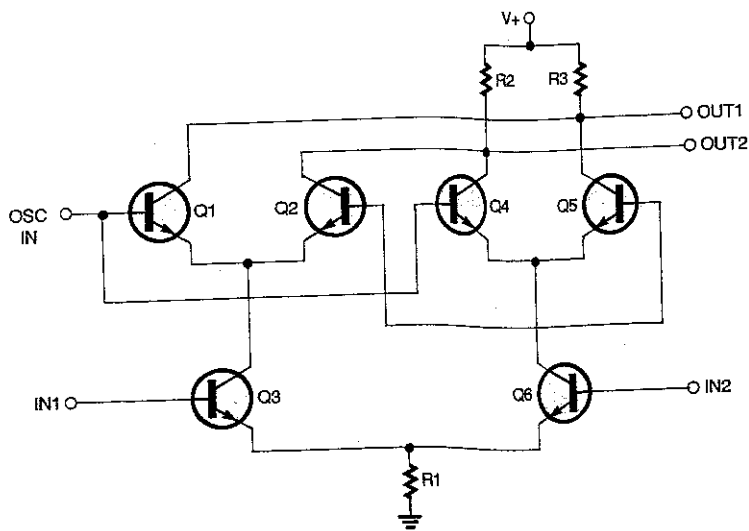

Fig. 2 The heart of the NE602: a Gilbert transconductance cell used for the double-balanced mixer.
Heart of the NE602. Because the NE602 contains both a DBM and a local oscillator (LO), it can be used as the entire front-end of a radio receiver. Figure 2 shows a partial view of the internal circuit of the heart of the NE602: the double-balanced mixer stage. That configuration is known as a Gilbert transconductance cell. It consists of a pair of cross-coupled differential amplifiers. One feature of the design is that it offers a very good